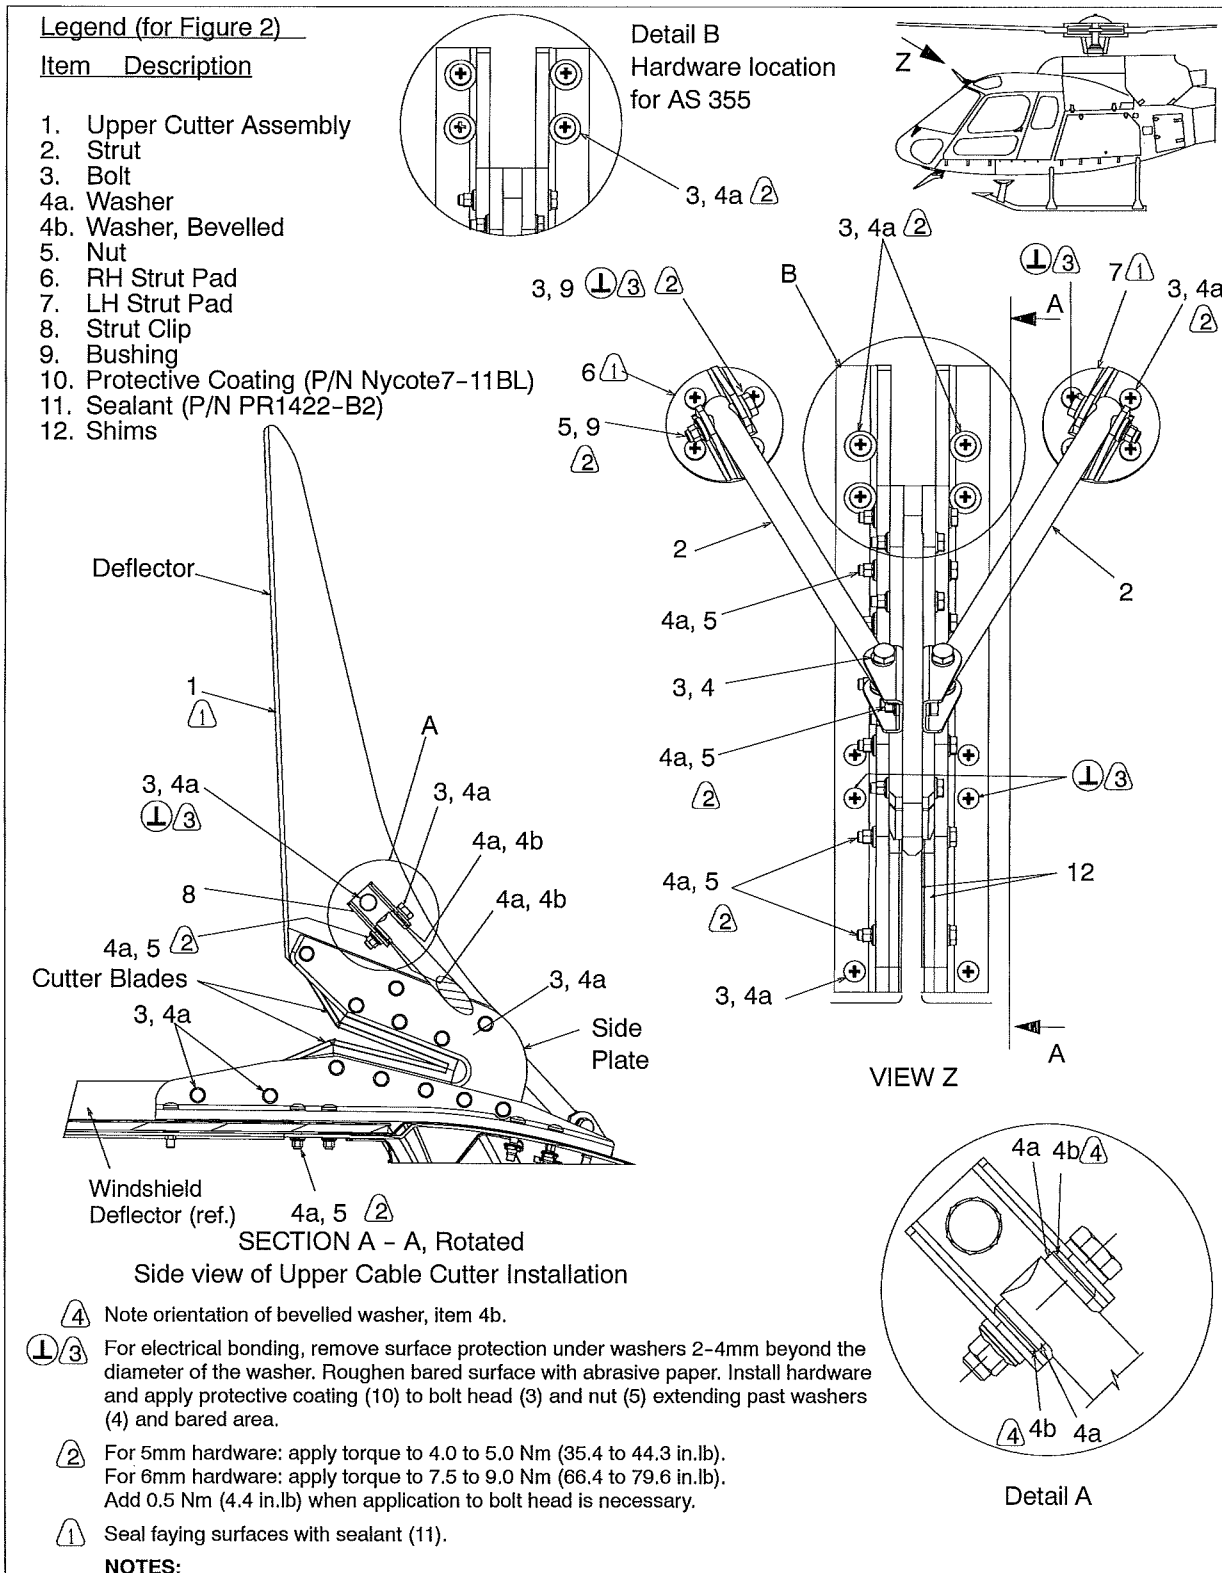

Figure 2 Upper Cutter Assembly Detachable Provisions
Installation Procedure (Refer to Figures 2, 3 and 4)
3. Tighten all hardware to correct torque values, refer to Figures 2, 3 and 4.